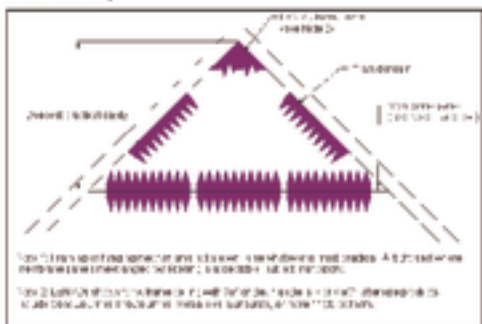

Figure 3.4 - Method for treating a “cathedral” or “A-frame” ceiling
Figure 3.4 shows an example of how we would suggest you to treat a cathedral ceiling for live rooms. This also would work in a control room or studio room you have put in, for example, an attic space because that’s the only place your spouse would let you! In it, we show 4” Studiofoam™ on the two ceiling surfaces that come together to form the peak of the cathedral ceiling. Below that (the farther down, the more effective it is), a horizontal piece of material forms the face of the “trap.” In this example, the face material is 1/4” pegboard and it is covered on both sides with 4” Studiofoam. Instead of using two (2) separate pieces of 4” Studiofoam leading up to the peak, a viable and perhaps even more effective alternative is to span the peak with a piece of Studiofoam, forming a small, triangular-shaped airspace behind it. One way to control sound in general and low frequency sound in particular is to force the sound waves to fight their way through multiple layers of different materials and dead air before they can strike the room boundary.